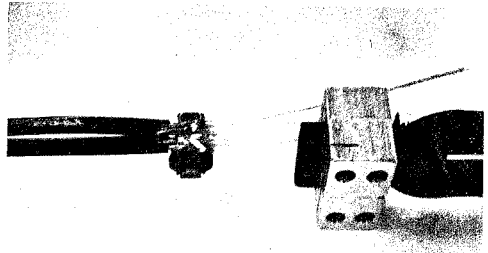

Fig. 6
4.12 Using the smaller groove of the D Underground Wire Splitter split the insulation between the conductors to separate them as shown in Fig. 6.